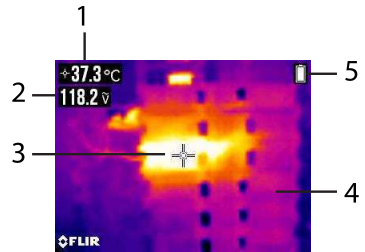

Fig. 7-1 IGM Display Example
Press the IGM button to open the Thermal Imager. In **Fig 7-1**, the meter is set to color palette IRON. Short press the Palette/Emissivity button  to select other colors. Long press the Emissivity button to open the emissivity-setting menu. Press the Emissivity button to scroll to the desired setting, press and hold the emissivity button to exit. See Section 7.3, Emissivity Factors for Common Materials
7.1.1 Thermal Image Display Description (refer to Fig. 7-1 for the list below)